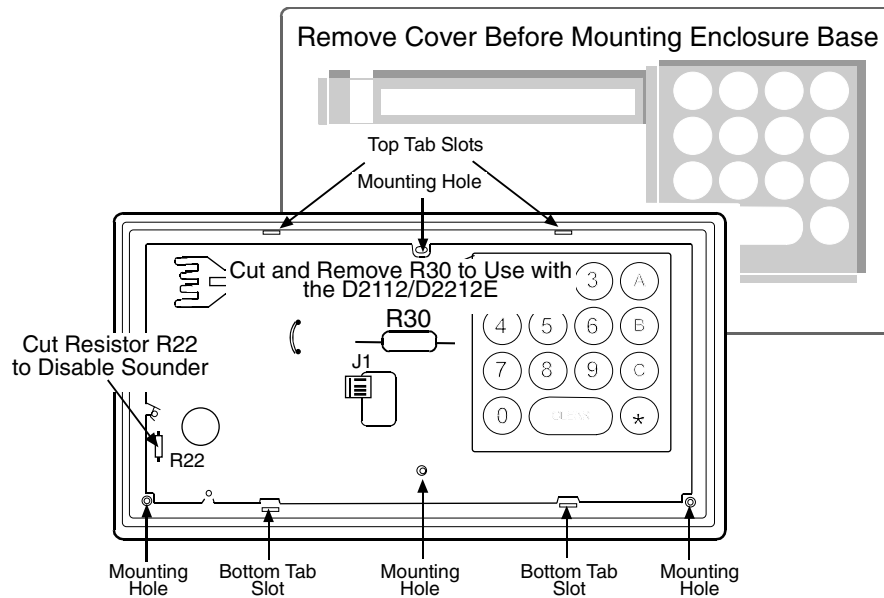

Figure 2: Inside the D220ATD Keypad
- When using the D220ATD with the D2112/D2112E, cut and remove the R30 resistor. See *Figure 2* on page 3.
- If disabling sounder, do so before connecting the keypad to the cable. Disable the sounder by cutting and removing resistor R22 located in the lower left-hand corner of the board, next to the sounder. Refer to *Figure 2* on page 3.
Route the three color-coded flying leads through the opening in the back of the enclosure base and plug into the serial data wiring connector (J1) in the keypad (see *Figure 2*).